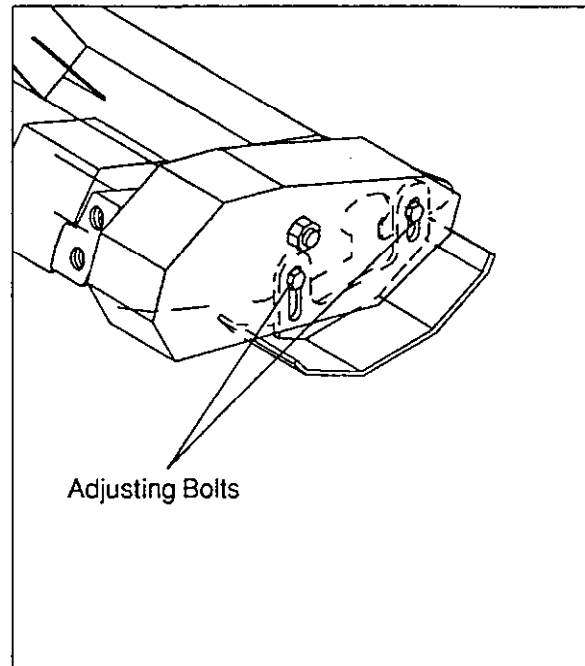

Figure 4
11. Mount the thatcher valve and flow control valve shown in Fig. 4 to the underside of the seat bracket.
BLADE DEPTH SETTING (Fig. 4)